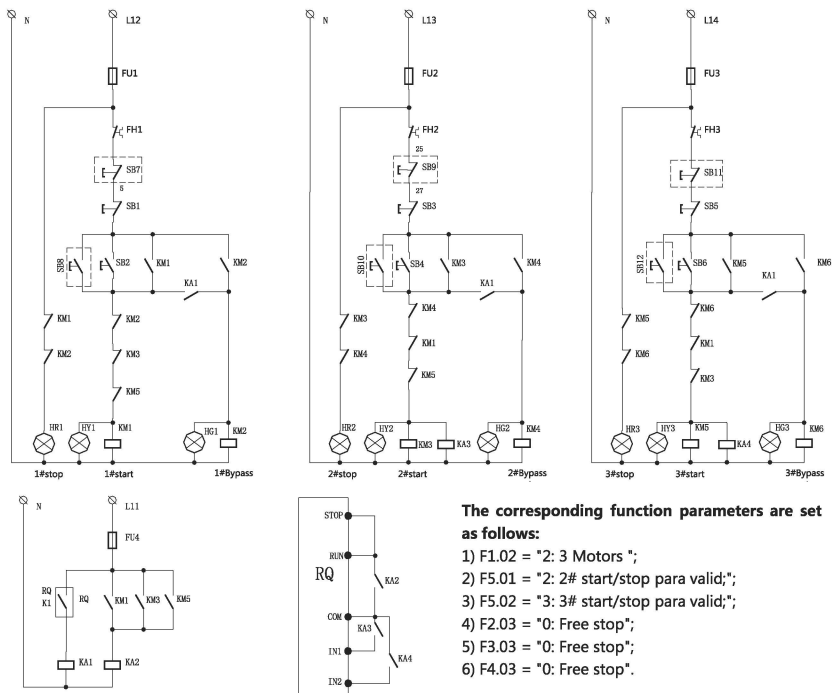

Figure B.5 One-for-three control circuit diagram
B.3.2 See Figure B.5 for the diagram of one-for-three control circuit.